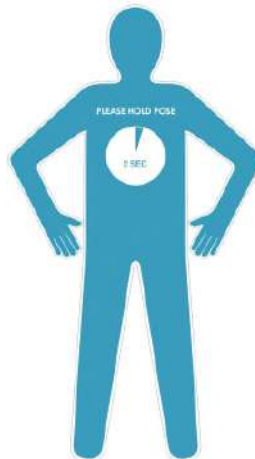

Figure 11 - PV3 Relaxed Stance
7.11.9 Dress the mast cabling as neatly as possible as shown in Figure 11 to assure there is no interference upon rotation of the mast.